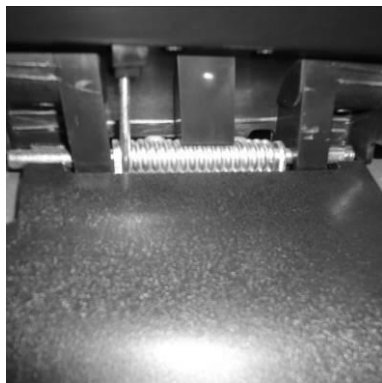

Fig.7a Fig.7b Fig.7C
3. Elevar a aba lateral de descarga lateral. (Fig. 7A)